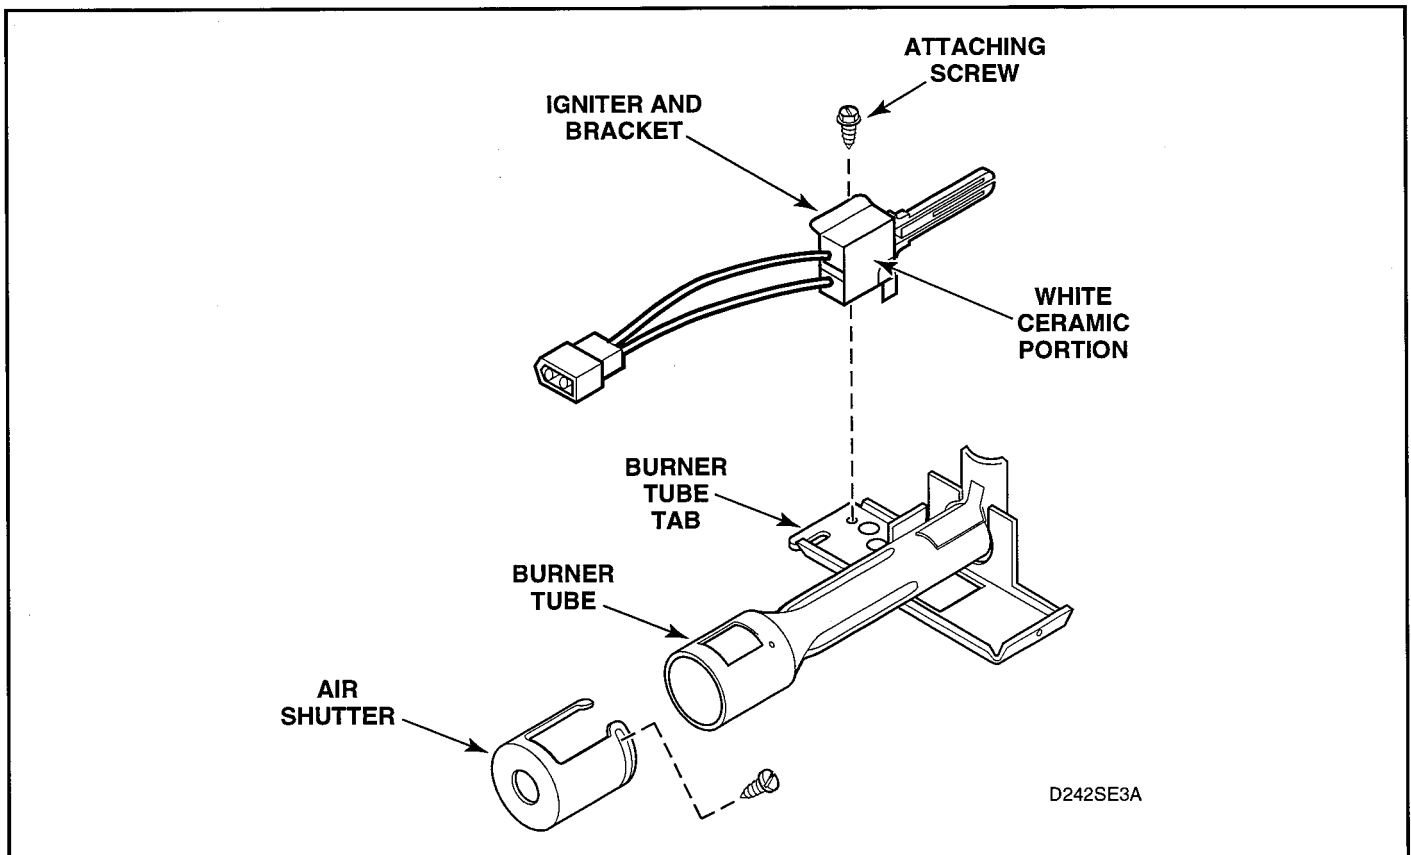

Figure 5-10
5. Remove screw holding igniter and bracket to burner tube and remove igniter and bracket. See figure 5-10.